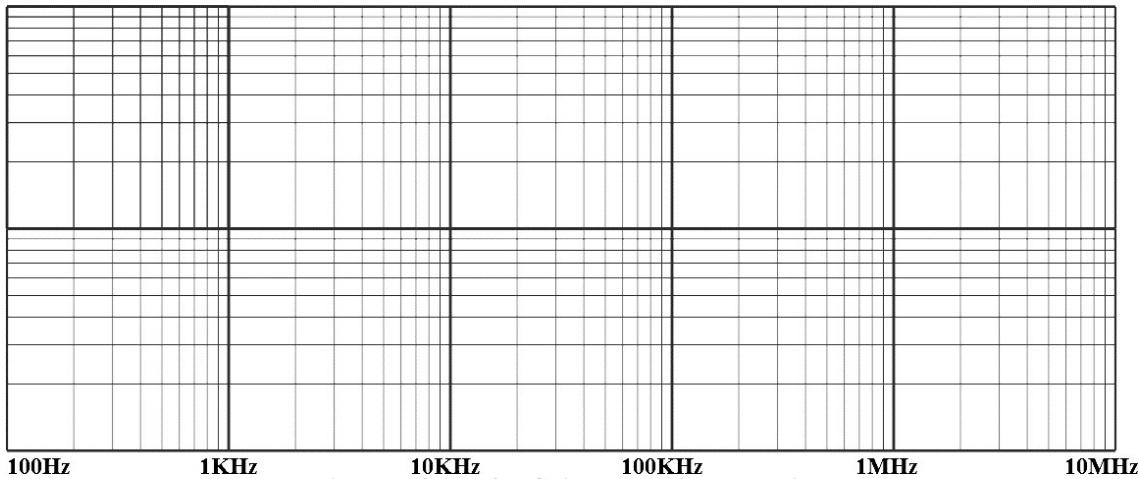

Figure 5.4 Plot for Gain-Bandwidth Relation
- 4) Draw the frequency response of the RC coupled CE amplifier in a semi-log sheet as shown in **Figure 5.4.**